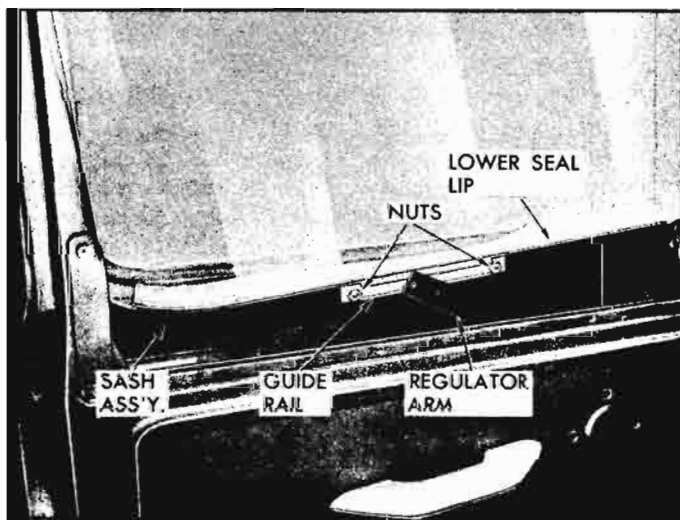

Fig. 10-49a—Sash Assembly and Window Guide Rail
5. Install window regulator handle temporarily; then raise window to expose sash assembly and window regulator guide rail retaining nuts (fig. 10-49a).
2. Install rubber seal with long lip towards outside (away from guide rail) shown in Figure 10-49a.